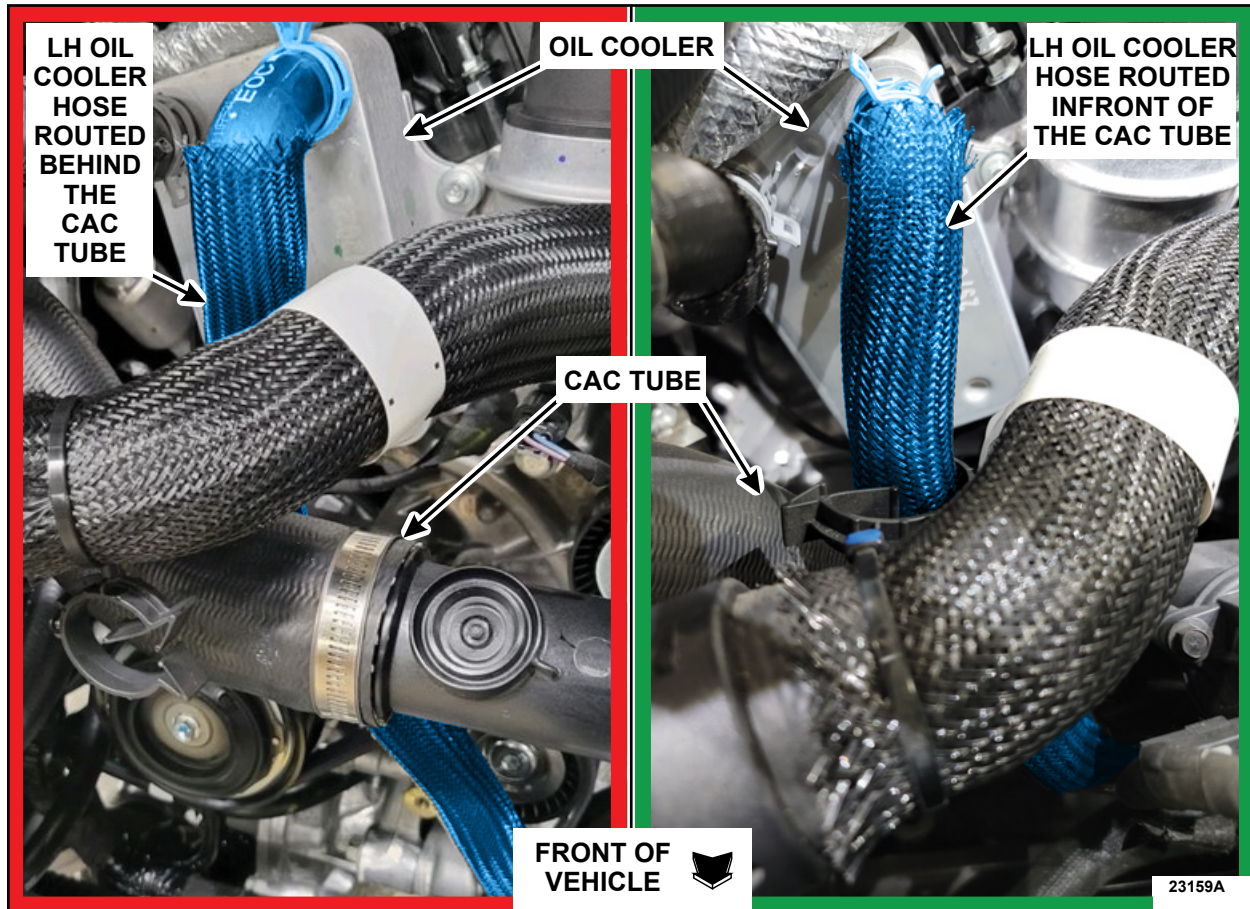

FIGURE 1
2. Locate and inspect the left hand (LH) oil cooler coolant hose. See Figure 1. A LH oil cooler coolant hose that routes in front of the charge air cooler (CAC) tube passes inspection. A LH oil cooler coolant hose that routes behind the CAC tube does not pass inspection. Did the LH oil cooler coolant hose pass inspection?